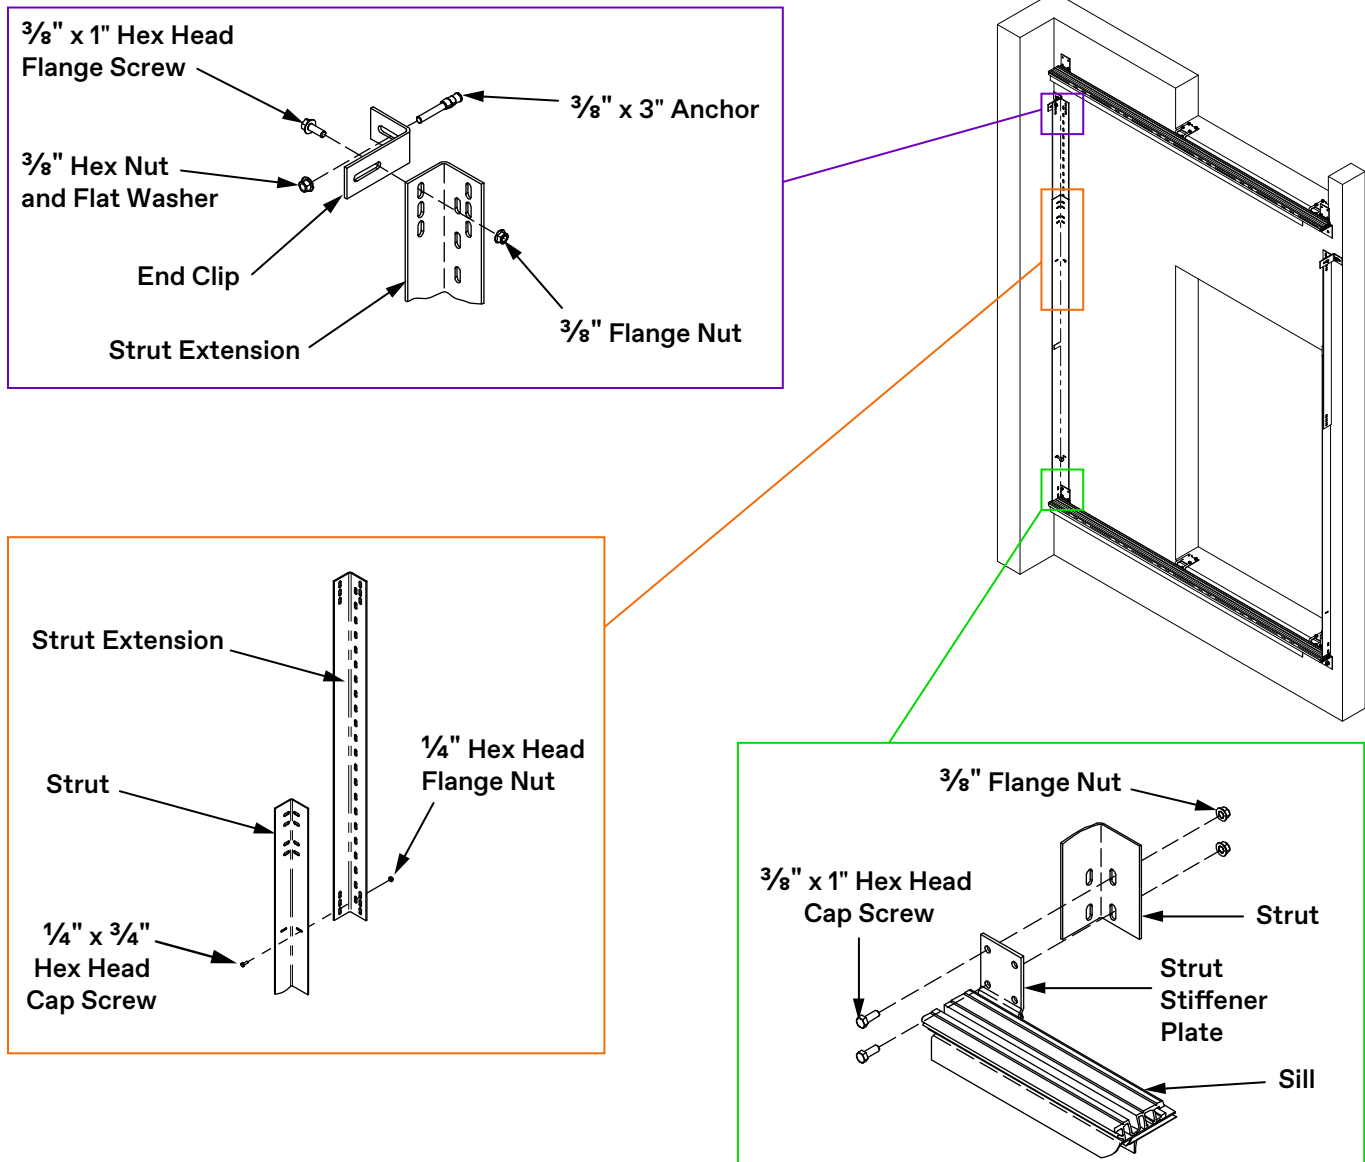

Figure 39 - Install Struts and Strut Extensions
1. Install a strut on the strut stiffener plate at each end of sill; do not tighten hardware. The end with the vertical slots attaches to the strut stiffener plate. See Figure 39.